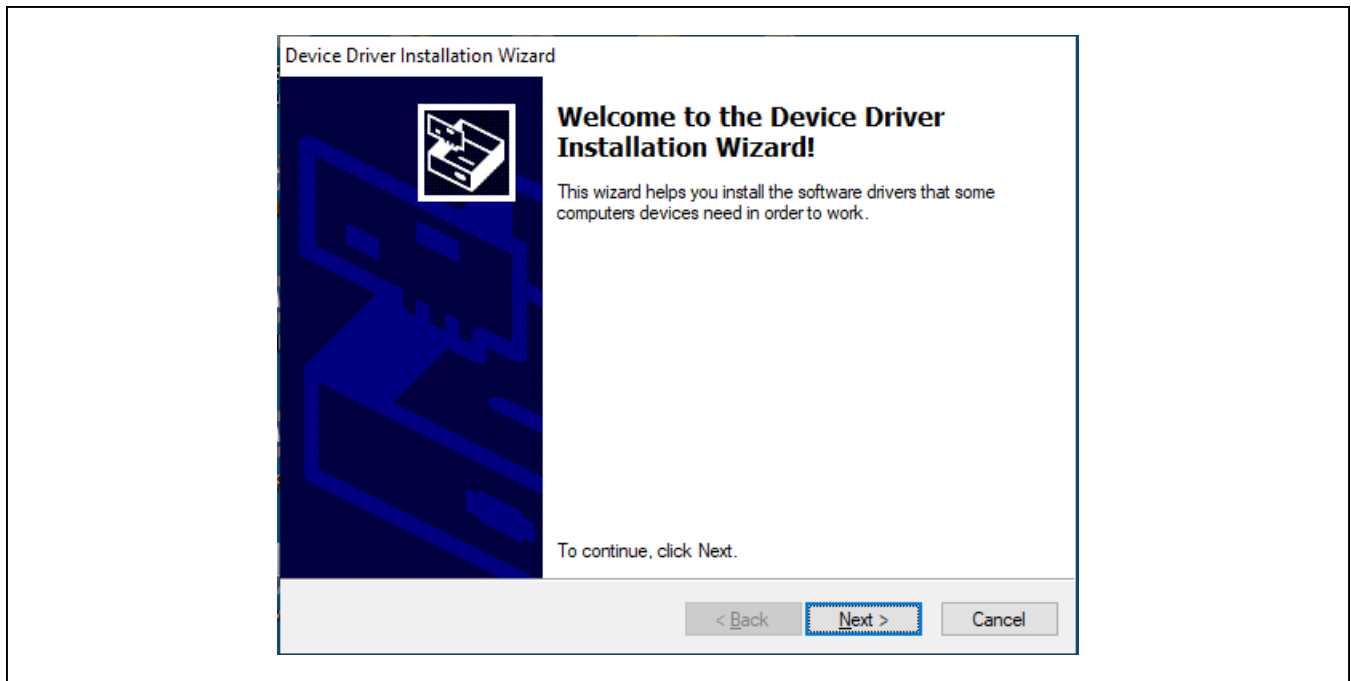

Figure 3. DS9481P-300# Driver Installation.
- 4) On the Device Driver Installation Wizard screen, click **Next** and follow the instructions. (Figure 3).